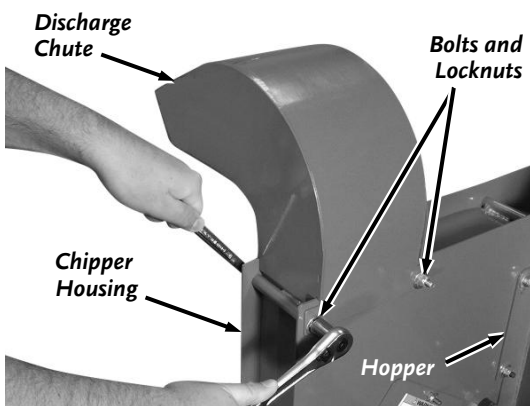

Figure 25
3. Remove the two Bolts and Locknuts that secure the Discharge Chute to the Chipper Housing and then remove the Discharge Chute (**Figure 25**).